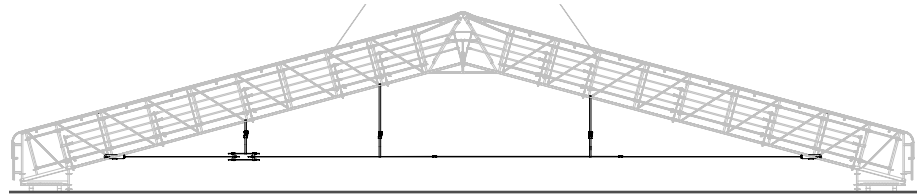

Fig. A8.01a
- on the Eave Element, (Fig. A8.01a)
1. Turn Tie Rod DW 15 (27.1) in the hole of the Suspension Tie Connector (50) – 2x, front and rear. Allow projection > 100 mm! (Fig. A8.01a)
2. Wrap Tension Belt (51) around the rectangular tubes of the Basic Element.